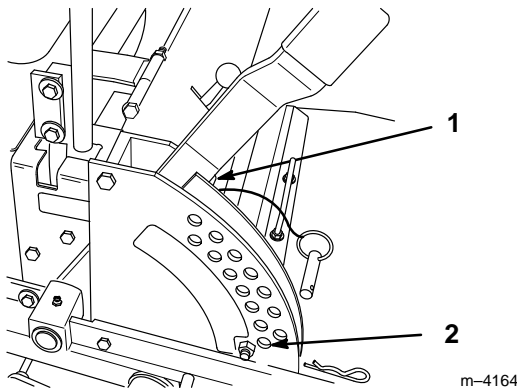

Figure 42
2. Check tire pressure of all four (4) tires. If needed, adjust to 13 psi (90 kPa)
4. Raise the deck to the transport position and take all force off of the two large deck lift springs by loosening nut in front of each spring (Fig. 42).
5. Place two 2" (51 mm) thick blocks under rear left and right lower edge of mower. Place one 2-1/2" (63 mm) block under front center lower edge of mower. Lower mower to the 2" (51 mm) height-of-cut position (Fig. 42).
1. Raise deck lift lever to the transport position, (Fig. 42).